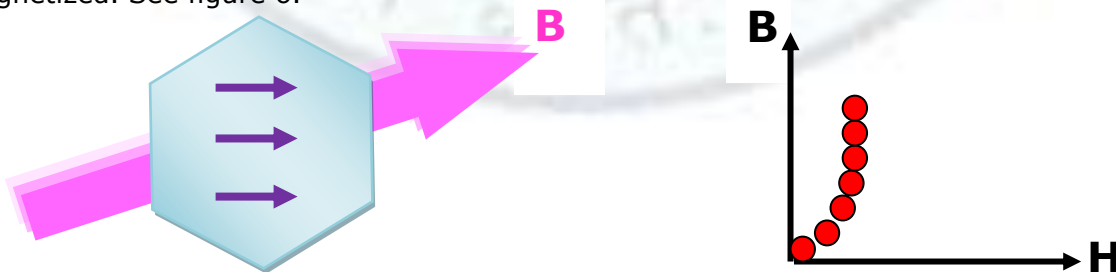

Figure 6
3. The size of other domains becomes negligible and the material is almost completely magnetized. See figure 6.